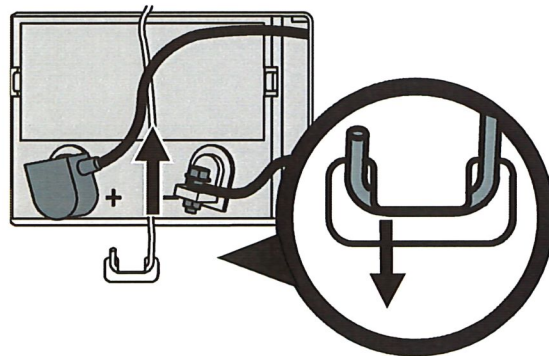

Figure 13
3. Remove the battery hold down bracket by pushing the hooked end out of the tab on the fender to the right side of the battery. Then flip the battery hold-down bracket up to free the battery. See Figure 13.